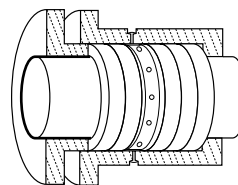

Figure 5
**8. IF THE STUFFING BOX HAS A LANTERN RING,** make sure that the lantern ring, as installed, is slightly behind the fluid inlet so that it will move under the inlet as the follower pressure is applied. See Figure 5.